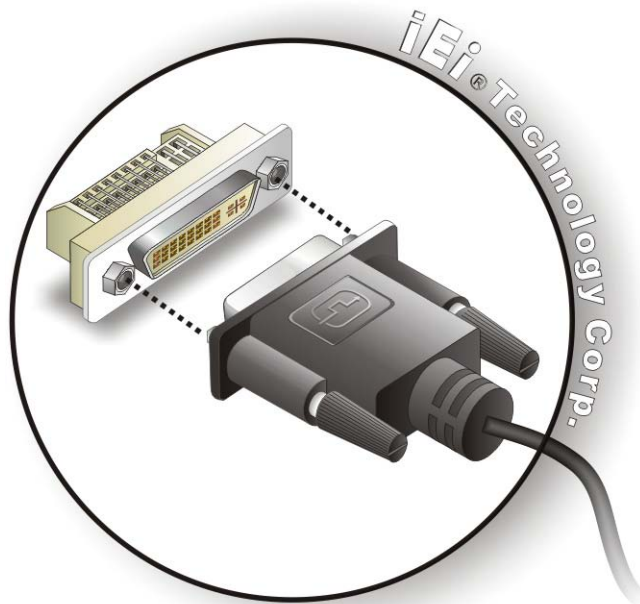

Figure 4-10: DVI Connector
- Step 3: Insert the DVI connector.** Once the connectors are properly aligned with the male connector, insert the male connector from the digital display device into the female connector on the KINO-AQ870. See **Figure 4-10**.